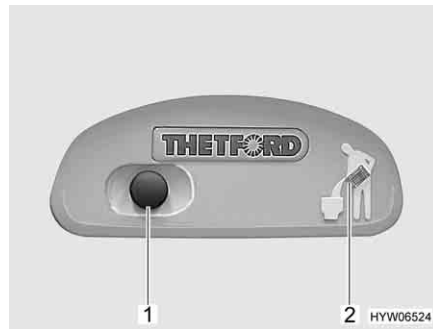
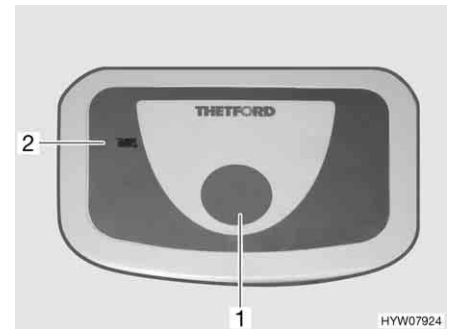

Fig. 245 Flush button/indicator lamp Thetford toilet
Fig. 246 Flush button/indicator lamp Thetford toilet (alternative)
- For flushing, press the blue flush button (Fig. 245,1 or Fig. 246,1).
The indicator lamp (Fig. 245,2 or Fig. 246,2) goes on whenever the sewage tank has to be emptied.